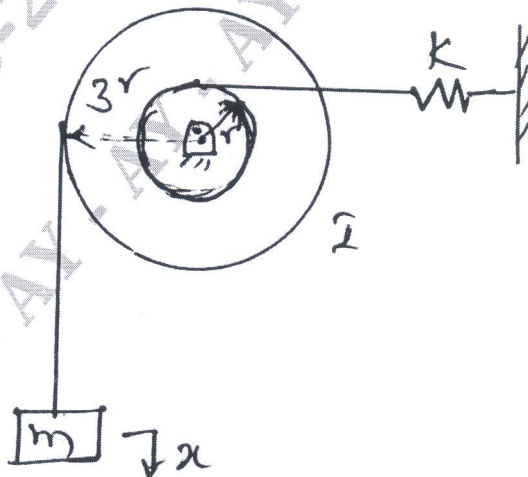

Fig.Q2(b)
- b. Determine the natural frequency of the system shown in Fig.Q2(b).